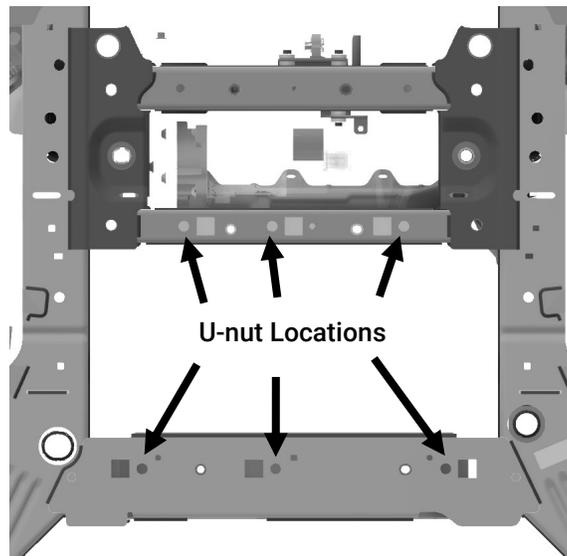

Figure 1
- A. Clip a U-nut [3X277] onto each of the (6) locations marked in Figure 1.